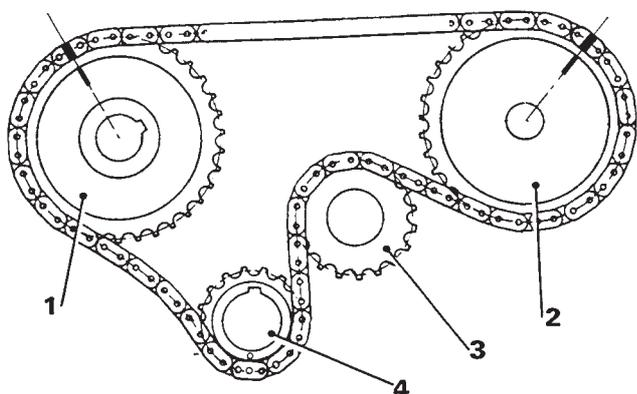

Fig.8 Timing marks
- Position the camshaft and injection pump sprockets so that their scribed timing lines are as shown in fig.8.